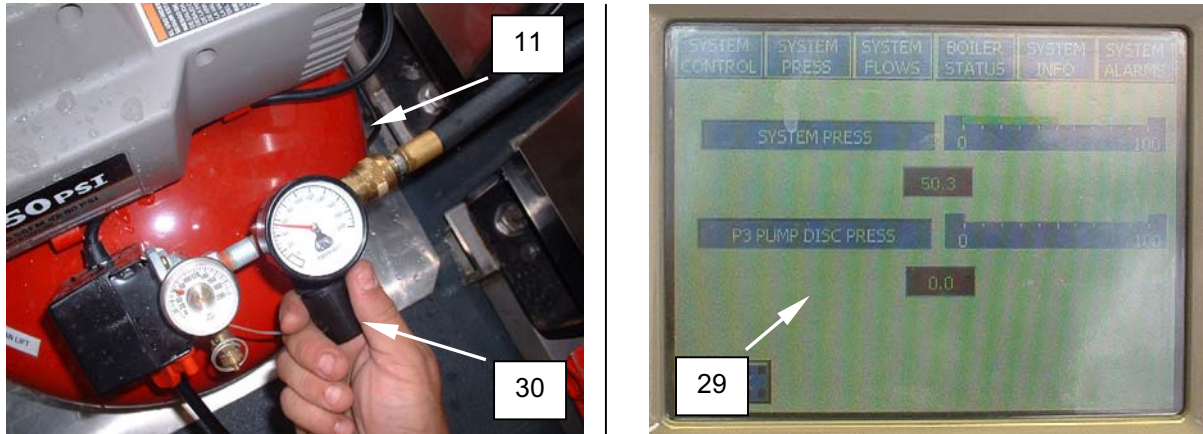

Figure 11. Purge Automatic Soap Dispenser.
14. Monitor the PLC (**Figure 11, Item 29**) system pressure while the air compressor (**Figure 11, Item 11**) builds up pressure in the system. The system pressure should be maintained at 50 psig.
15. If the system pressure is above or below 50 psig, adjust the air compressor regulator (**Figure 11, Item 30**) in order to achieve a 50 psig system pressure. Once the system is fully pressurized, the air compressor will turn off.